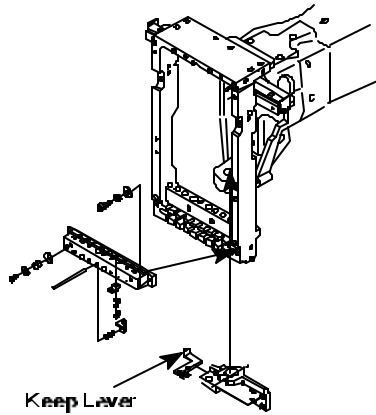

Figure 1
4. **Pull** Thread Keep Lever to **left** to disengage thread apron clamps. See *Figure 1*.